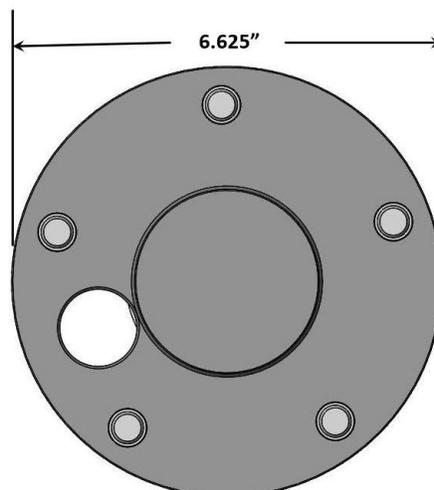

Figure 1 – Measuring the Axle Flange
4. The outer diameter of the axle flange can be no larger than 6.625" in outside diameter. This is critical for proper fitment of the rotor over the axle flange. For axles with a flange larger than 6.625", using a lathe, machine the outer flange down to the necessary diameter of 6.625". See Figure 1 on the next page for measuring reference.